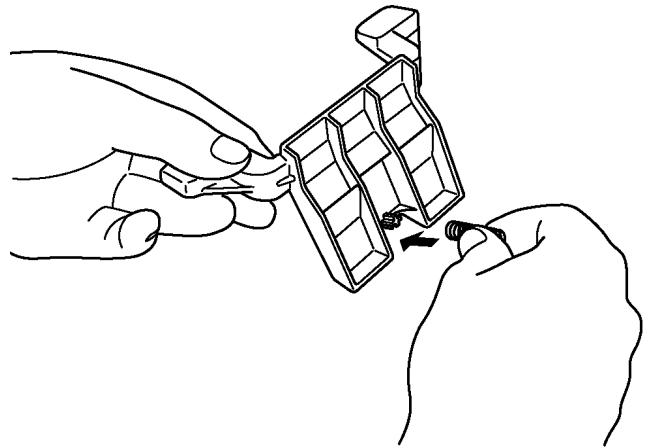

Fig.8
1. Fit the spring into the dust bag holder. (Fig.8)